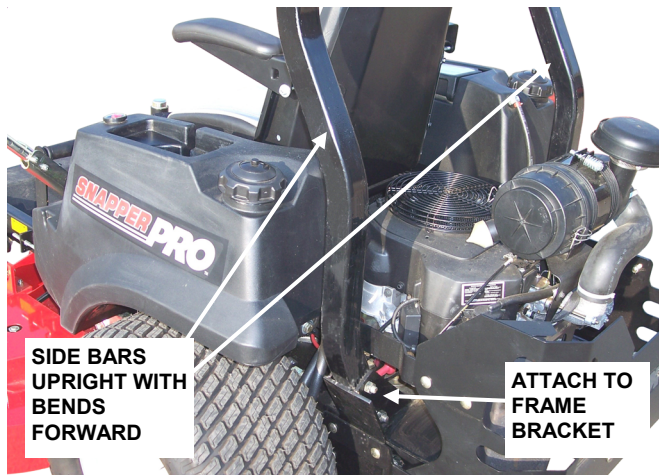

FIGURE 1
A. Install side bars into frame brackets behind fuel tanks, making sure bars aim up and bend toward front of machine. See Figure 1. Secure each bar to its corresponding bracket with two 1/2-13 x 3-1/4" hex bolts and lock nuts. Do not tighten yet.